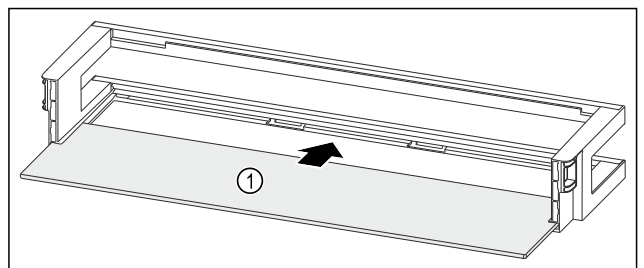

Fig. 215 Door rack with shelf
- ▶ Push the shelf Fig. 215 (1) into the side recesses.